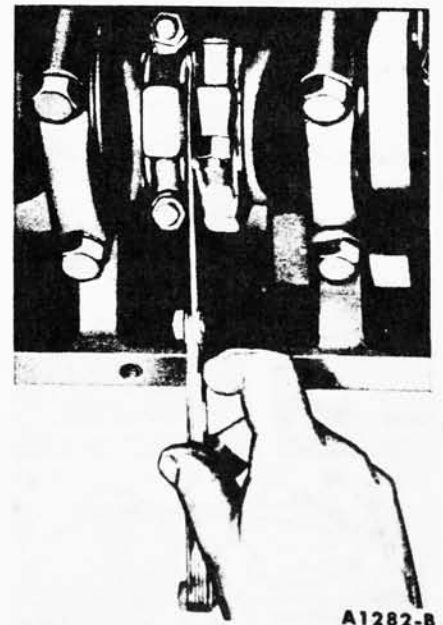

FIG. 69—Connecting Rod Side Clearance
9. After the piston and connecting rod assemblies have been installed, check the side clearance between the connecting rods on each crankshaft journal. (Fig. 69).